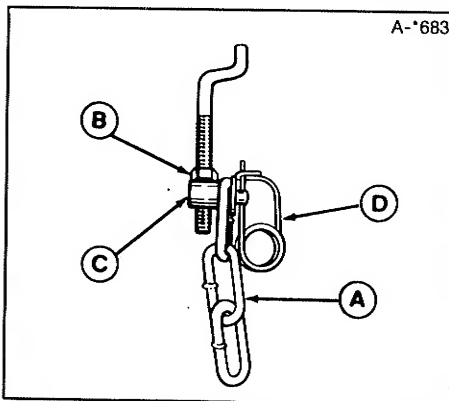

Figure 39. Lift Assembly - Large Lift Lever
4. To adjust, disconnect trunnion (C, figure 39) from chain by removing clip (D). Loosen the nut, and turn trunnion to raise or lower mower. Tighten nut when measurement is correct.